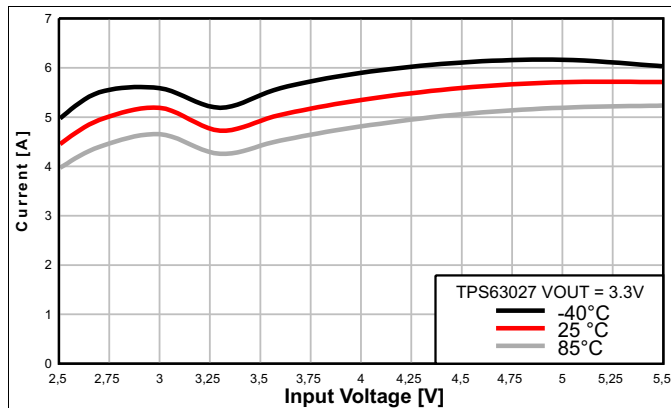

图 6. Average Input Current vs Input Voltage
Given the curves provided in Figure 6, it is possible to calculate the output current reached in boost mode, using Equation 1 and Equation 2 and in buck mode using Equation 3 and Equation 4.
- I_{IN} = Minimum average input current (Figure 6)
- (4)